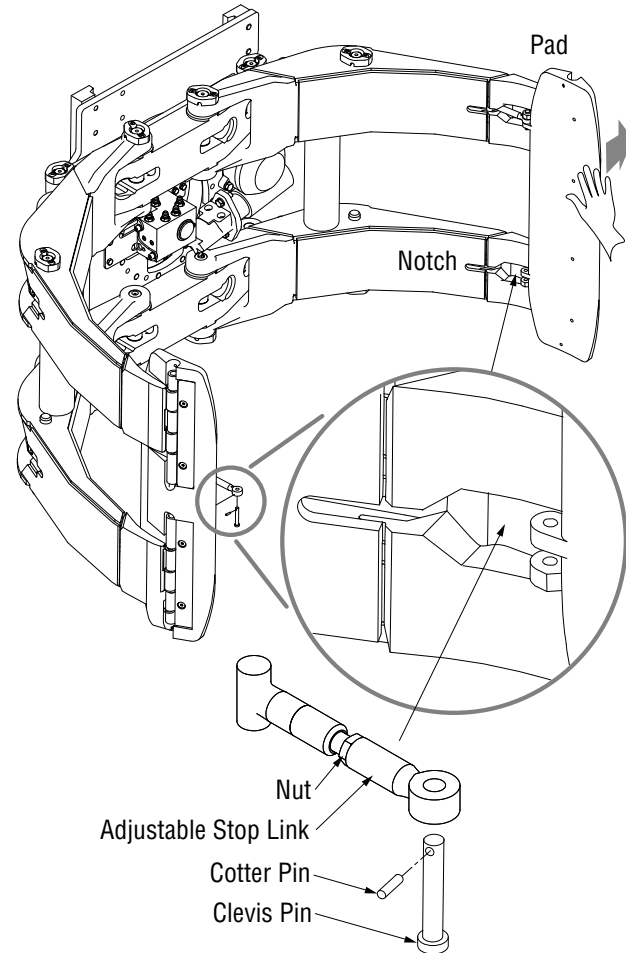

Figure 5-44, Stop Link Adjustment
1. Remove cotter pin from clevis pin and remove clevis pin. (Figure 5-44)